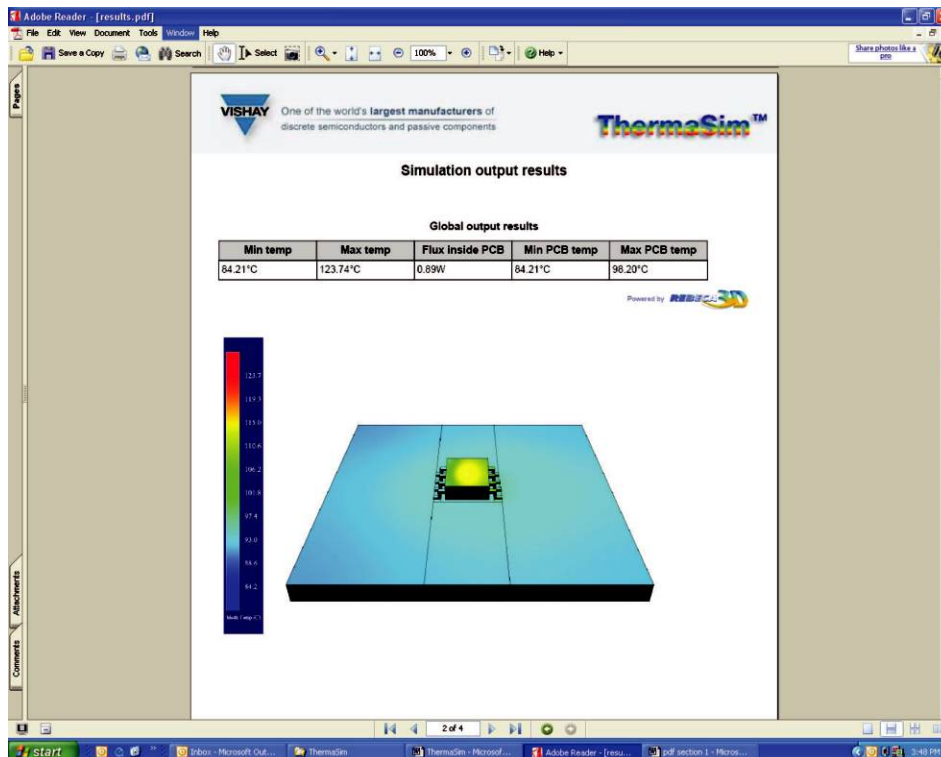

Figure 56.
- **Global Results** (see Figure 56) -This section lists the minimum and maximum temperature values of the system, and the flux, or power dissipated, through the PCB.